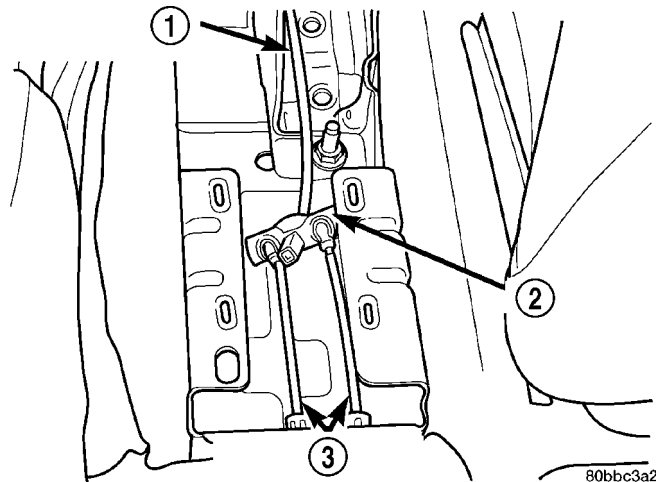

Fig. 4 Parking Brake Cables At Equalizer
- (7) Remove the rear parking brake cables from the parking brake cable equalizer (Fig. 4).